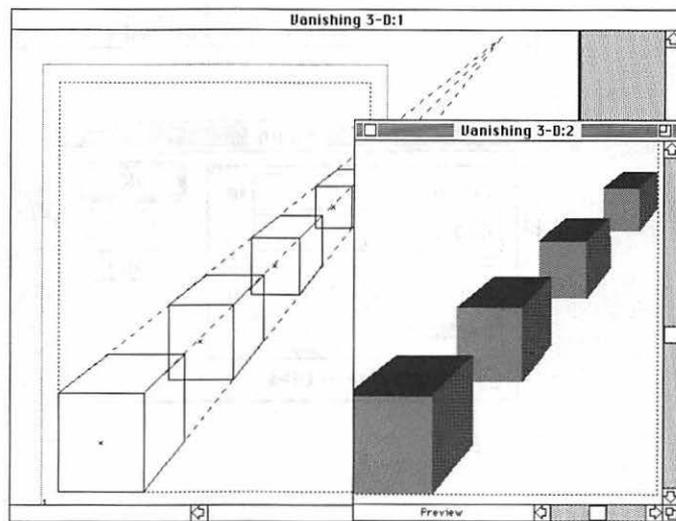

FIGURE 3-15 With a few simple steps, you can scale images to a vanishing point in Illustrator.
2. Draw three lines from the top and lower right corners of the box face to the vanishing point. The vanishing point can be within the page's boundaries or somewhere out on the pasteboard. (Put it out on the pasteboard, as in Figure 3-15, for a more realistic effect.)
Choose the PREVIEW ILLUSTRATION command to see how your three-dimensional boxes stack up (Figure 3-15).